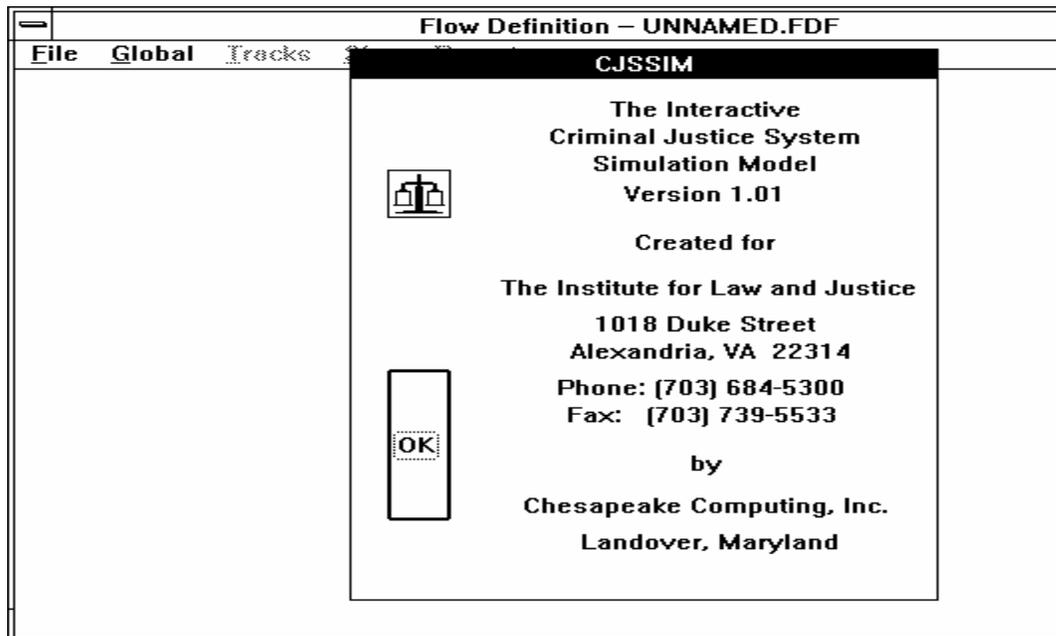

Figure 2-1. The CJSSIM title screen.
9. To test-start CJSSIM, double-click on the CJSSIM icon. Figure 2-1 will appear. Click the OK button. You may then exit by clicking the file menu and choosing Exit.